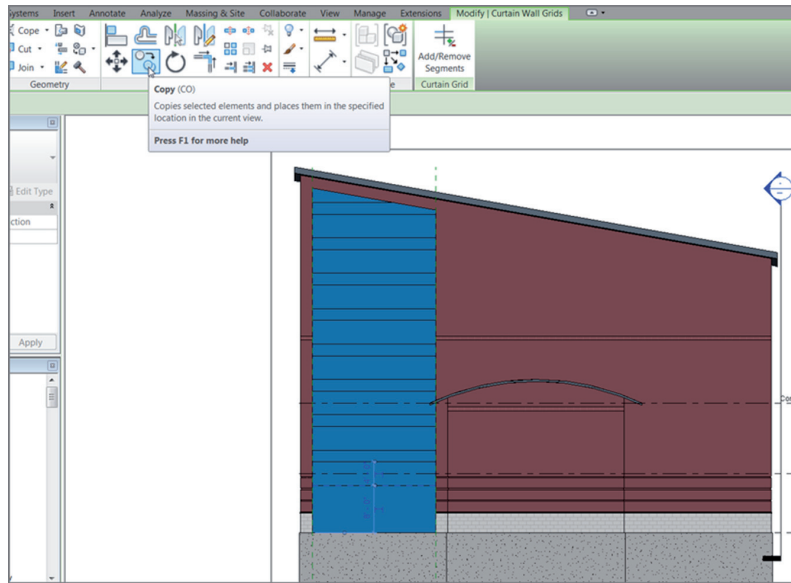

FIGURE BC1.32: Copying the grids to form the custom curtain wall
9. Repeat this pattern until you've reached the top of the wall (see Figure BC1.32).